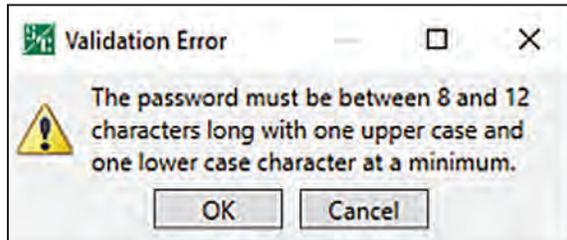

Figure 40. The Validation Error dialog box.
STEP 6. If the password was not successfully validated, the Validation Error dialog box will open. See Figure 40. Click on the **OK** button to attempt to change the password again. Go to Step 3 on page 95.